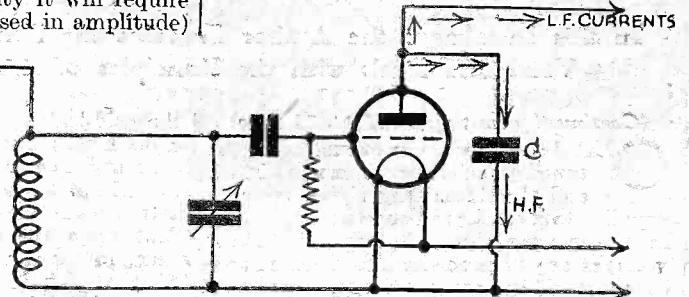

Fig. 18.—H.F. currents in the anode circuit of the detector are fed back to the filament through a condenser.
The high-frequency "component" is no longer required, so our first object must be to "throw it away" and prevent it from reaching the L.F. amplifier, where it could do no useful work and would be a nuisance. But how? There are two ways; one is to feed it back to the filament circuit by means of a condenser (C) connected as shown in Fig. 18. Here it should be noted that a condenser has the interesting property of passing high-frequency currents much more easily than those of low frequency, and if a suitable capacity is chosen for C, it will allow easy passage of all H.F. without having any effect whatever on the audio frequencies. By calculation we can find that the most suitable capacity lies between about .0001 mfd. and .001 mfd. Incidentally, if the capacity